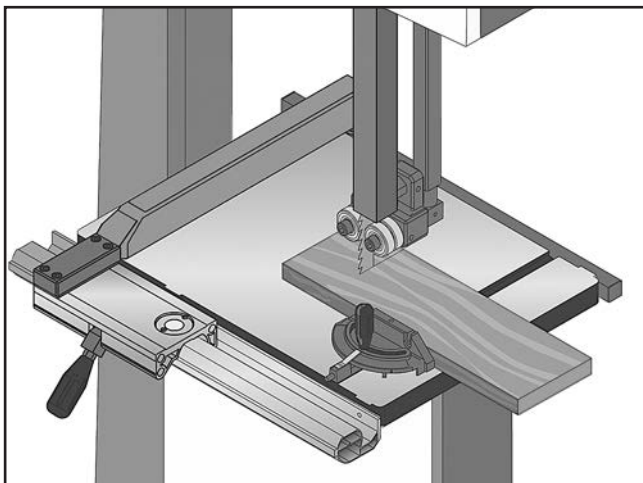

Figure 78. Example of crosscutting.
5. After all safety precautions have been met, turn the bandsaw **ON**. Slowly feed the workpiece into the blade and continue the cut until the blade is all the way through the workpiece. **Figure 78** shows a typical crosscutting operation.